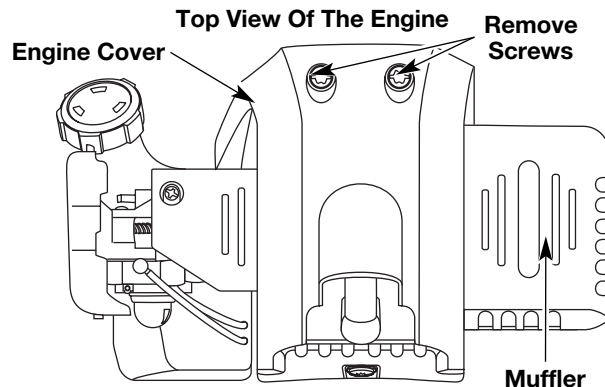

Fig. 34
2. Remove the two (2) screws on top of the engine cover with a Flat-head or T-25 Torx screwdriver (Fig. 34).